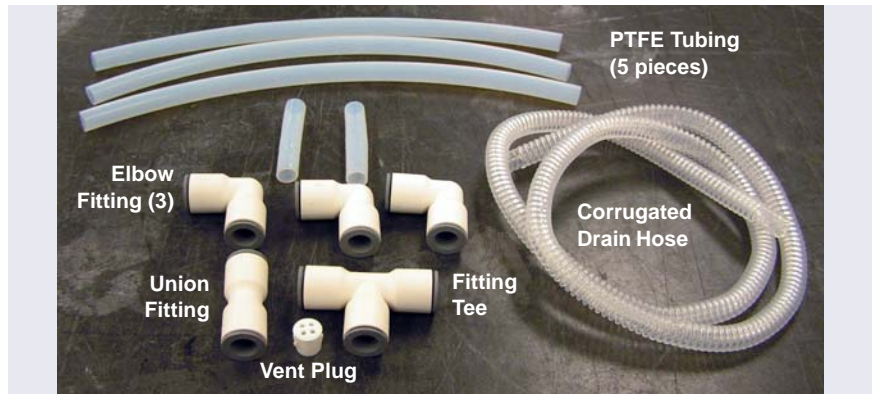

Figure 3-52. DC Drain Line Parts
1. Locate the drain line parts in the DC Ship Kit (P/N 072011, standard DC; P/N 22171-62000, low-temperature DC) (see Table 3-4 and Figure 3-52).